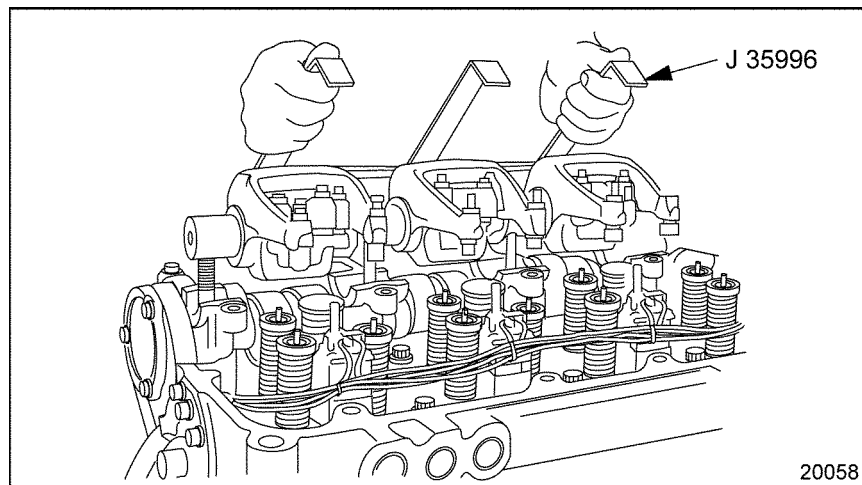

Figure 6-2 Rocker Arm/Shaft Assembly Removal/Installation
7. Remove all the rocker shaft mounting bolts and nut from the front or rear rocker shaft assembly. Using rocker arm lifter (J-35996-A), see Figure 6-2, lift the assembly straight up and off of the head and place in a clean area on the bench.